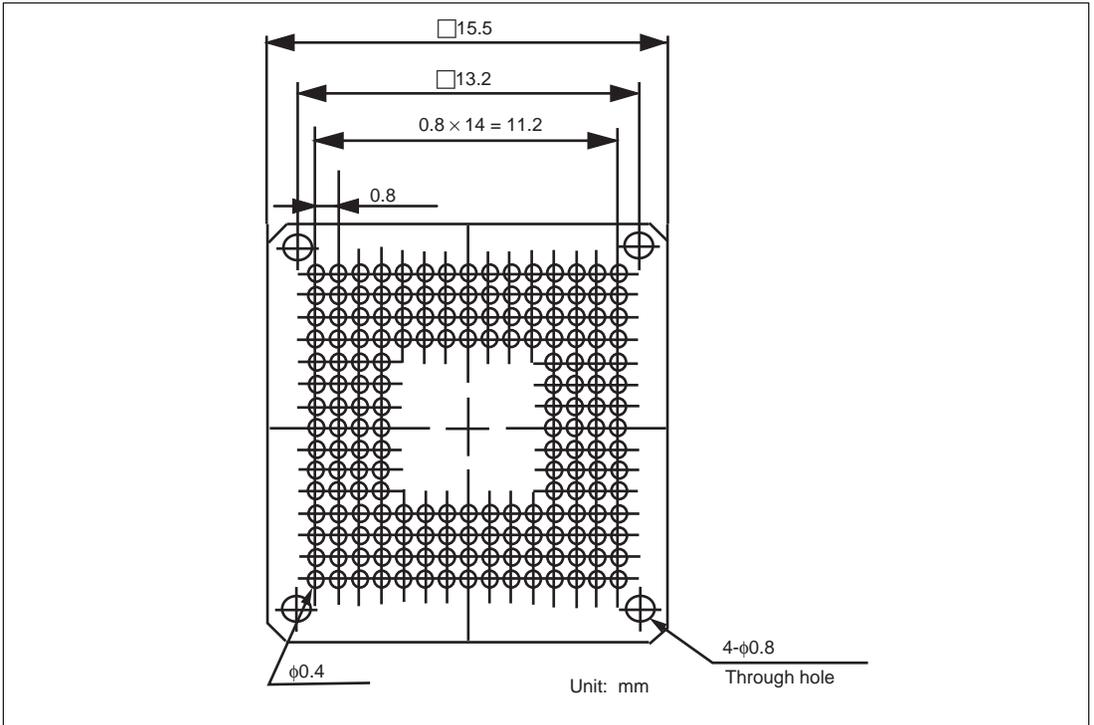

Figure 7 Recommended Dimensions for Mount Pad
- (3) Install the provided guide pins into the holes for the guide pins on the user system. Check that the pads are correctly aligned with the IC socket.
(4) Notes on soldering the IC socket
- a. The IC socket is larger than the actual IC package; therefore, refer to figure 7 for the installation of other components.
Figure 7 shows the recommended dimensions for the mount pad (footprint) for the user system with an IC socket for a BP-176V package (CSPACK176A1513H01: manufactured by Tokyo Eletech Corporation). Note that the dimensions in figure 7 are somewhat different from those of the actual chip's mount pad.